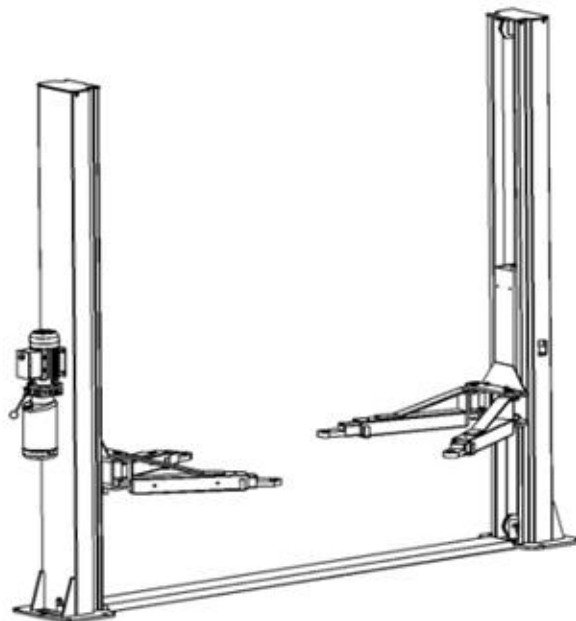

Fig.8
- The front and back of the lift should be reserved with sufficient space to accommodate all the vehicles (Fig. 8). (evaluating from the center line ,each edge should be about 4m)